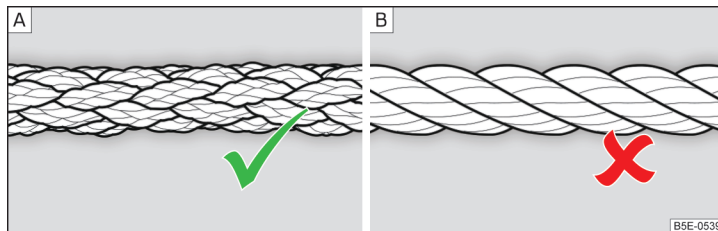

Fig. 126 Braided tow rope / Spiral tow rope
To tow with a tow rope, only use a braided synthetic fibre rope » Fig. 126 - **A** » .
- Spiral tow ropes must not be used for towing » Fig. 126- [B], the towing eye may unscrew out of the vehicle - risk of accident.